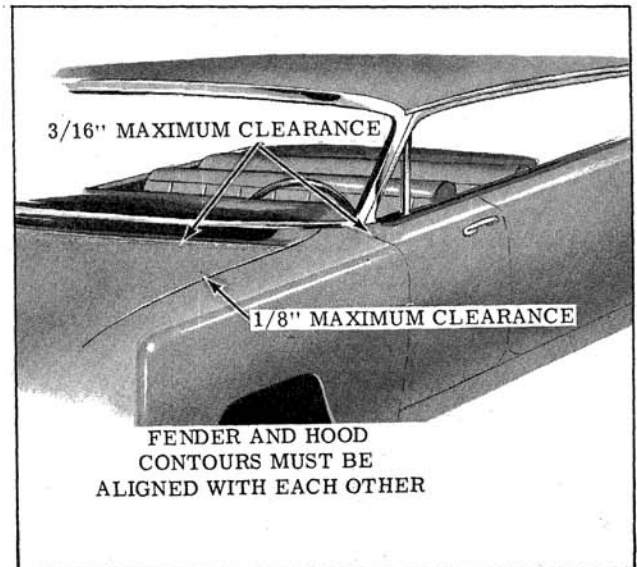

Fig. 15-10 Sheet Metal Clearances
2. Shift hood until clearances shown in Fig. 15-10 are obtained.